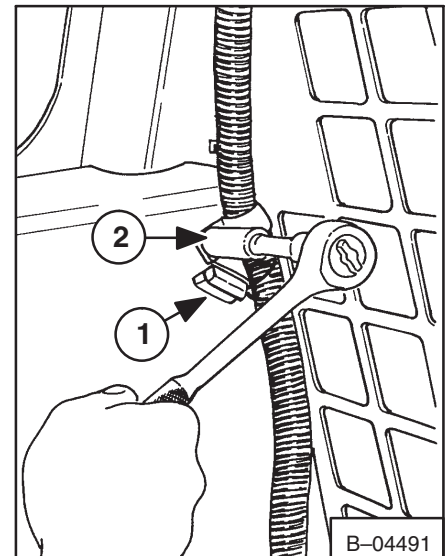

Fig. 6-3 Wire Harness Clip
3. Disconnect the connector at the fuel sender wires (Fig. 6-3, Item 1).
4. Remove the harness clip (Fig. 6-3, Item 2).
8. Connect the wires to the fuel sender (Fig. 6-3, Item 1).